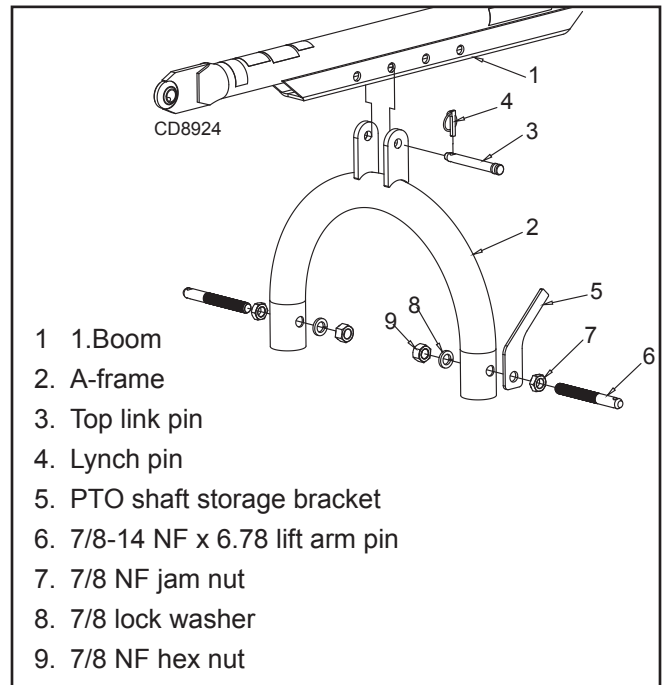

Figure 6. A-Frame to Boom Assembly
1. Connect lift arm pins (6), Figure 6, and hardware supplied with pins to the A-frame assembly (2). Mount PTO shaft storage bracket (5) as shown on outside of A-frame.